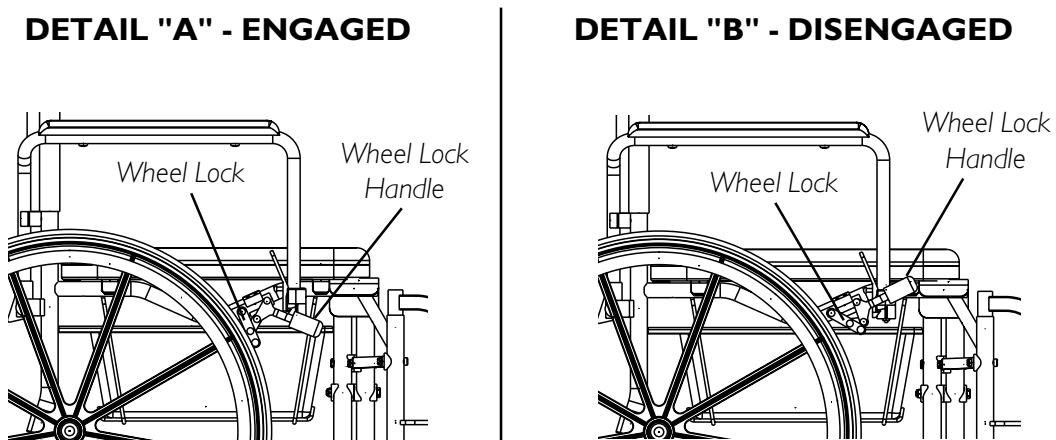

FIGURE 1 - USING WHEEL LOCKS
2. To engage wheel locks, push the wheel lock handle forward to the LOCKED position (DETAIL "A" of FIGURE 1).
3. Disengage the wheel locks by reversing STEP 2 (DETAIL "B" of FIGURE 1).